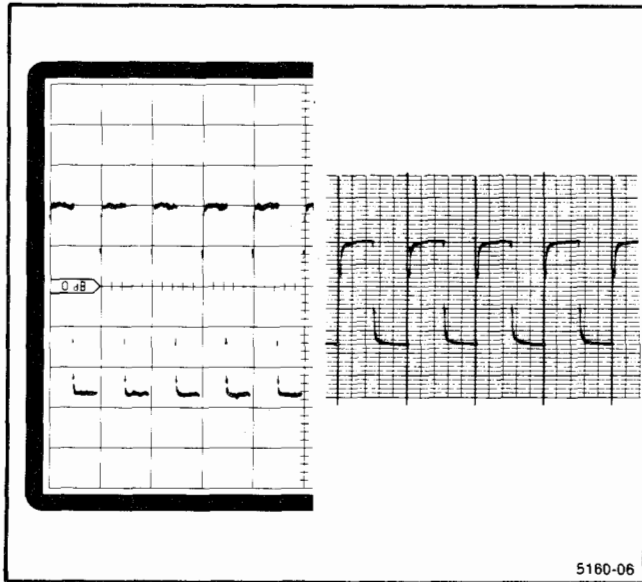

Fig. 4-5. Verifying Peak-to-Peak Signals.
- e. Check that the peak-to-peak signal on the CRT display coincides with the major graticule lines on the chart,  $\pm 5\%$  of deflection from the center graticule line,  $\pm 0.3$  major division (see Figure 4-5). If they do not match, adjust R2033 (GAIN).